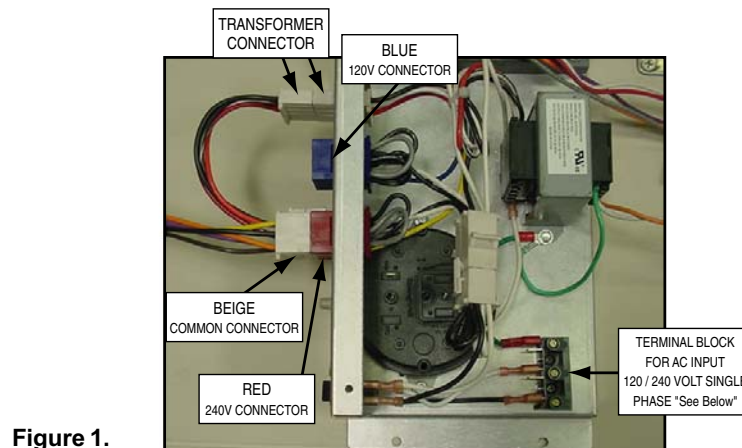

Figure 1.
- The MiniMax NT heater is prewired for 240-volt AC connection using the “RED” connector and the “BEIGE” common connector; see **Figure 1** below. For 120-volt AC supply, remove the “BEIGE” common connector and plug it into the “BLUE” common connector.
You need to open the right door then remove the control panel cover for servicing the Line Terminal Block as shown in Figures 1 & 2.